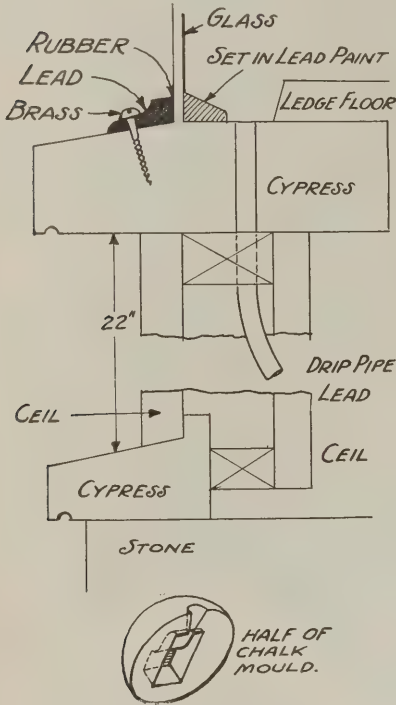

Fig. 7—Renewal under plate glass show window
S. F. B., of New London, Ohio, sends in the drawing, Fig. 7, showing how he put new woodwork under plate glass. "The main light was 7x8 feet and the side light 7x3 feet. I got the work out in the shop and next morning got help to take out the glass. Did the woodwork alone and had the glass back in eight hours.